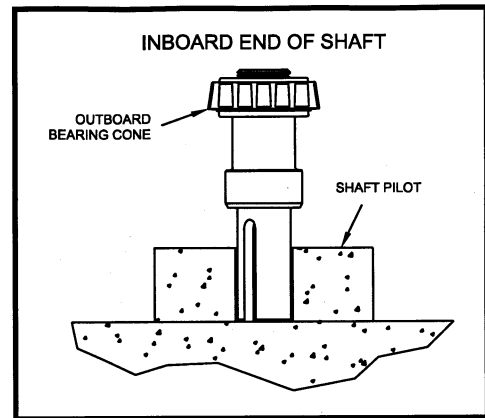

Figure 6.3.5.1 Placing Outboard Bearing Cone onto Shaft
4. Place the outboard bearing cone squarely on the inboard end of the shaft with the smaller diameter of the bearing facing inboard. **Reference Figure 6.3.5.1 (next column).**